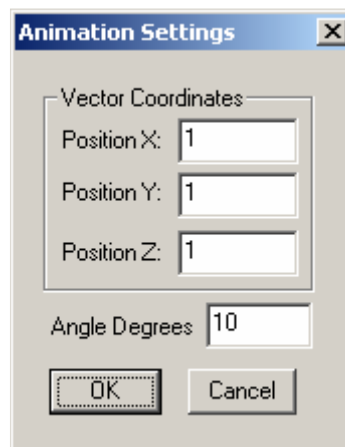

Figure 7: Animation Settings.
*OpenGL Animation* command: It opens an animation settings dialog (Figure 7).